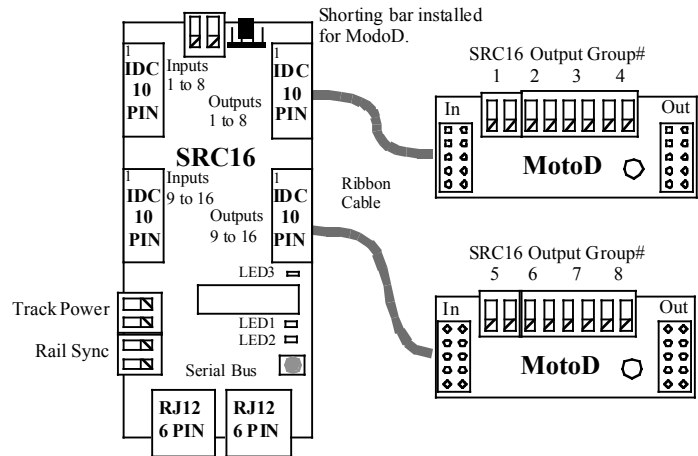

Figure 1
Each output of the MotoD requires a SRC16 output for control. If the SRC16 outputs are configured as pairs or groups (one output for throw and the other for close with the same address) then there is an equivalent of eight (8) SRC16 output addresses. See figure 1.